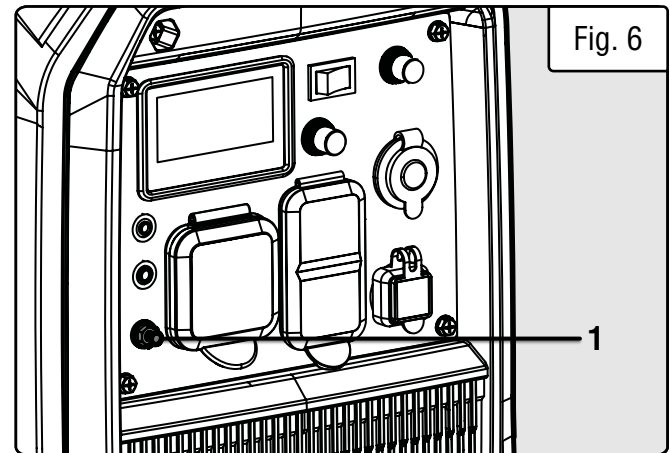

Fig. 6
1. Attach one end of the grounding wire to the grounding nut (Fig. 6 - 1). Tighten the nut to secure the grounding wire.